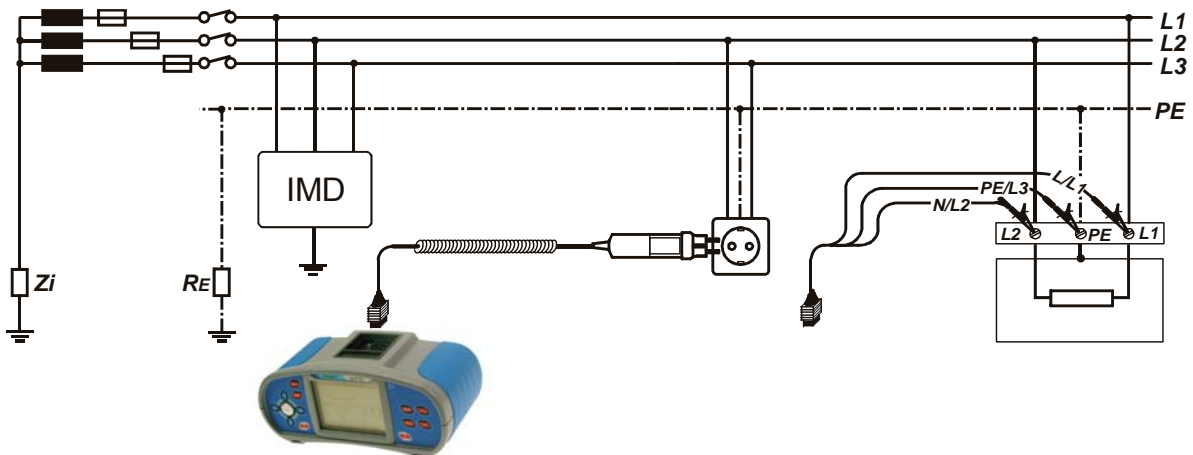

Figure B.5: Connection with plug commander and universal test cable
Step 3 Connect test cable to the item under test. Follow the connection diagram shown in figure B.5 to perform first fault current measurement. Use the **Help** function if necessary.
Step 3 Connect test cable to the item under test. Follow the connection diagram shown in figure B.5 to check insulation monitor device. Use the **Help** function if necessary.